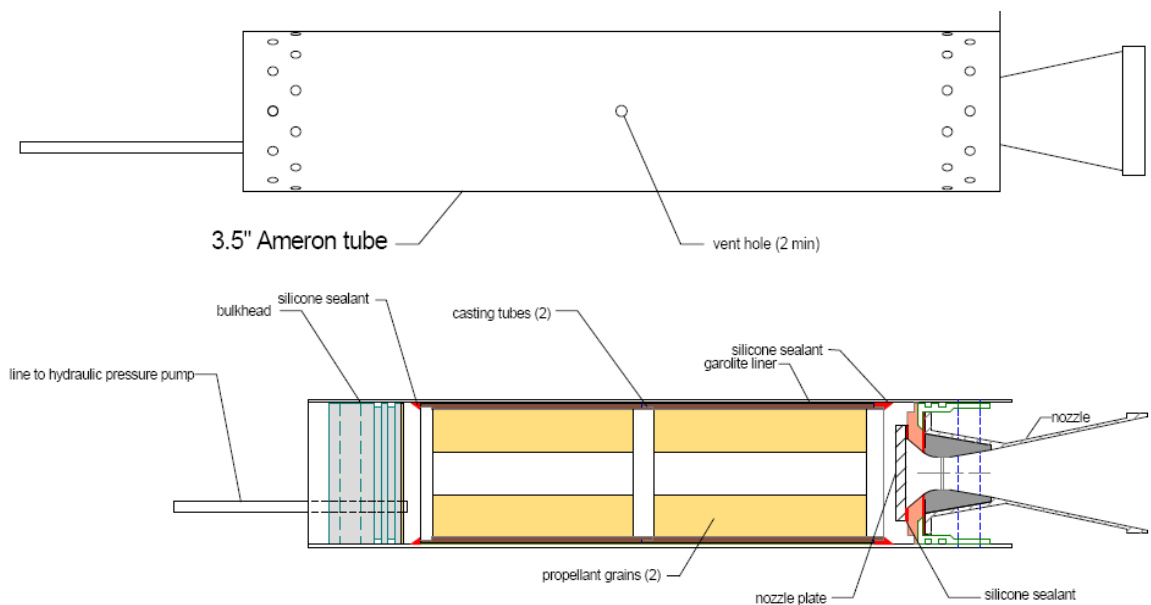

Figure 2
8. Drill two small holes (e.g. 1/8”) approximately at mid-span of casing as shown in Fig.2. Holes should be approximately 180 degrees apart.
11. Install the grain assembly into the casing approximately midspan, as illustrated in Fig.2.
13. Seal the nozzle throat with a suitable “nozzle plate” as illustrated in Figure 2, using silicone adhesive or RTV. Allow to cure minimum 24 hours.